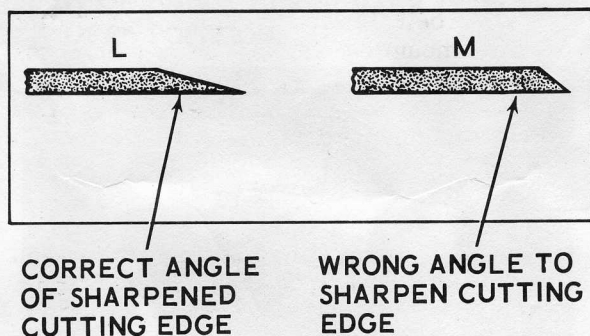

Figure 8
7. Check the mower blades periodically for nicks or dullness. Damaged or dull blades can cause a shattered rather than clean cut and brown areas may develop. Reference "L", Figure 8, illustrates the correct angle at which to sharpen the blade cutting edges. If the cutting edge is sharpened at a blunt angle, Reference "M", the grass may also be shattered rather than cleanly cut.